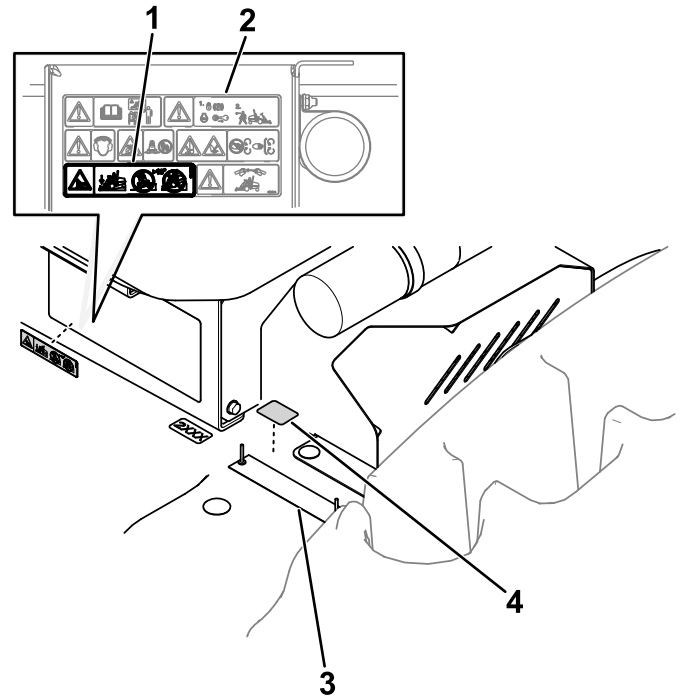

Figure 14
2. Apply the appropriate decal in the area near the serial plate as shown in Figure 14.
3. Apply over the area of the warning decal as shown in Figure 14.
Important: Ensure that the application surfaces shown in Figure 14 are clean and dry before you apply the decals.